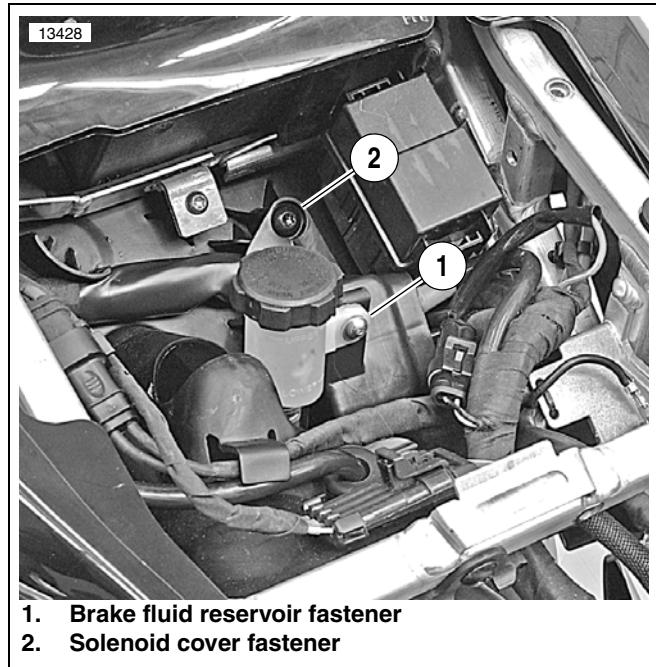
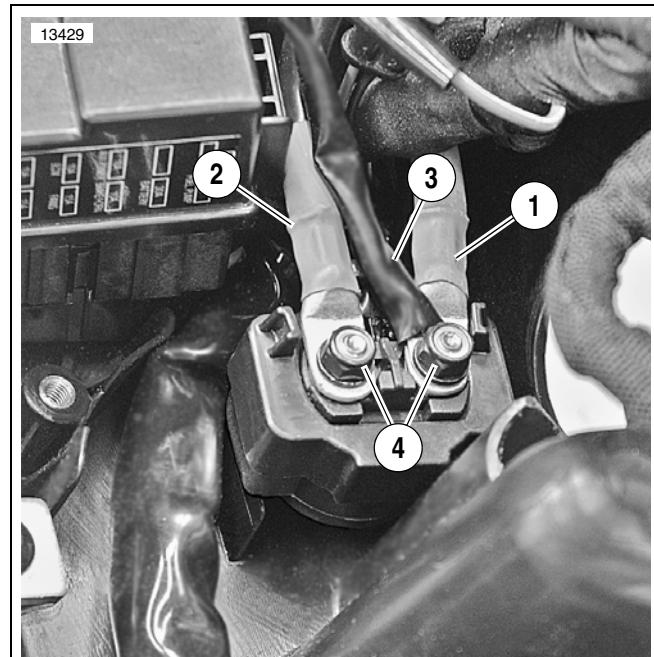

Figure 1. Starter Solenoid Cable Fasteners
Figure 2. Starter Solenoid
3. See Figure 1. Remove the brake fluid reservoir fastener (1).
4. Remove solenoid cover fastener (2) and the cover.
5. See Figure 2. Remove starter solenoid cable fasteners (4) and washers.
6. Apply blue Loctite 243 (blue) to the fasteners (4).
8. See Figure 1. Install solenoid cover and fastener (2). Tighten fastener to 37-60 **in-lbs** (4.1 to 6.8 Nm).
9. Install brake fluid reservoir and fastener (1) and tighten to 32-36 **in-lbs** (3.6-4.1 Nm)